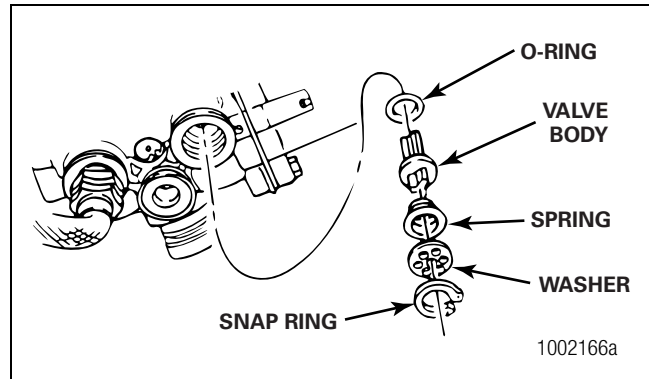

Figure 2.4
4. Install the new O-ring on the valve body. Figure 2.4.